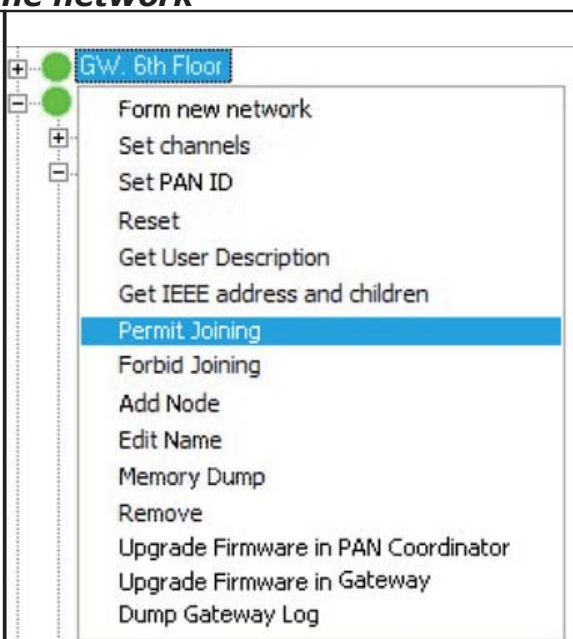

Figure 61
2. In SysMon, choose **View/Online Network** to see the online network. Right click on the designated gateway/ router in the **Online Network** tree and select **Permit Joining** in the right-click menu; see *Figure 61*.